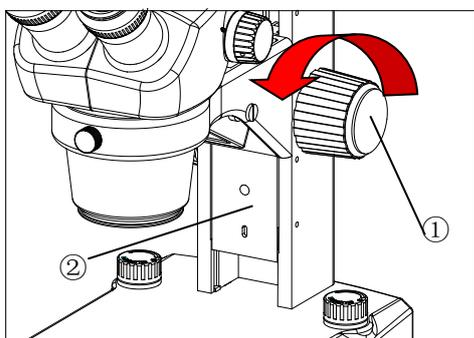
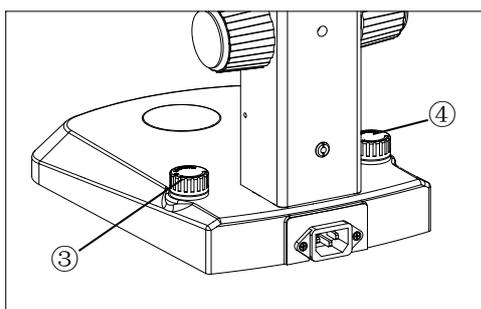

Fig.9
Fig.10
3.2.1 Adjusting the rotation tension of the focusing knob (fig.9, fig.10)
2. Brightness adjustment (Fig.10): the right brightness adjustment knob (3) is used to adjust the bottom illumination, and the left brightness adjustment knob (4) is used to adjust the top illumination. Each knob has its own on-off. Rotate anticlockwise to open the power and increase the brightness, keeping rotating clockwise would decrease the brightness until it is power off.